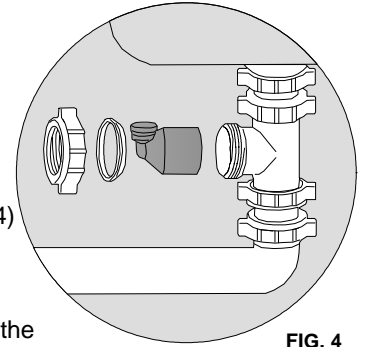

FIG. 4
5. Insert new drain line adapter with push-in connector into side outlet of the tee, and rotate towards incoming 3/8" rejected water drain tube. Make sure that the adapter is firmly seated in the bottom of the socket, then tightly secure with beveled washer and wing nut. (See Fig. 4)